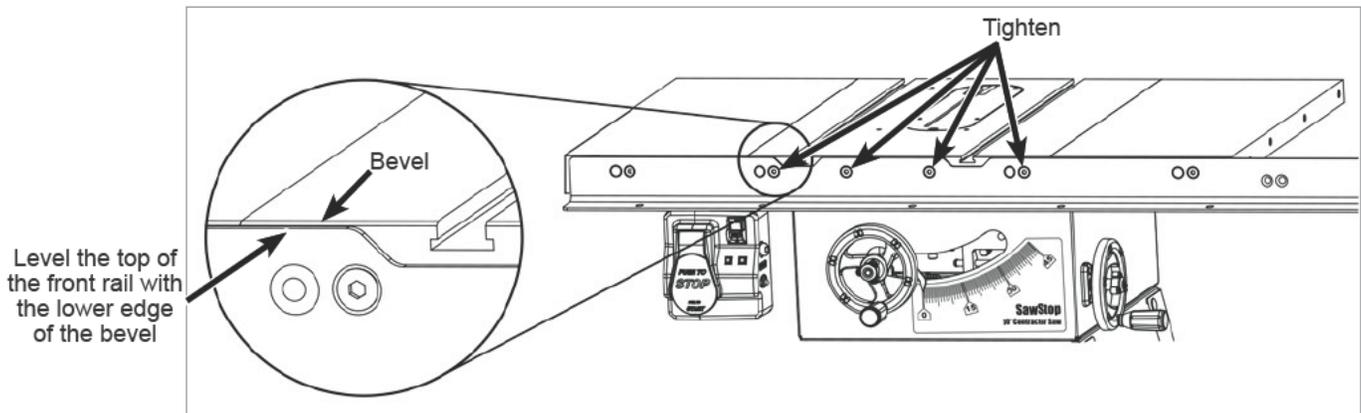

Fig. 11
- The holes in the front edge of the table and extension wings are slightly larger than the bolts they receive to allow you to level the front rail and extension wings to the table top. Align the top of the front rail with the lower edge of the bevel on the front edge of the table top (See Fig. 11). Use a 5 mm hex key and a 13 mm wrench to fully tighten the nuts on the back of the four bolts that extend through the table top. Do not tighten the nuts on the bolts that extend through the extension wings.